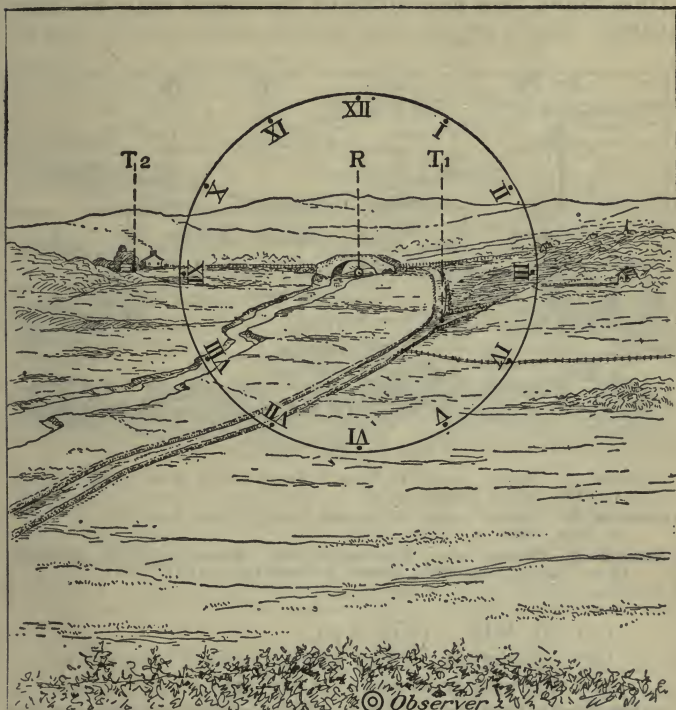

FIG. 32.—Vertical Clock Face System.
**161. VERTICAL CLOCK-FACE SYSTEM** (or V. C. F.). (Fig. 32.) Imagine a clock face hanging vertically with its face at right angles to the line of vision, and its